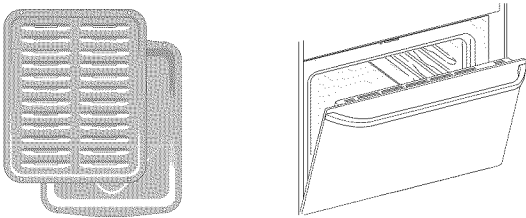

Figure 28: Broil pan and insert (L) Broil Stop position (R)
The broil pan and broil pan insert used together allow dripping grease to drain and be kept away from the high heat of the oven broiler (Figure 28). Do not use the broil pan without the insert. Do not cover the broil pan insert with foil. The exposed grease could catch fire.
1. Place the broiler pan insert on the broiler pan. Then place the food on the broiler pan insert. Arrange the interior oven rack and place the broiler pan on the rack. Be sure to center the broiler pan directly under the broiler element. Make sure the oven door is in the broil stop position (Figure 28). Preheat the oven for 2 minutes. When broiling in the top position (4) use offset rack.